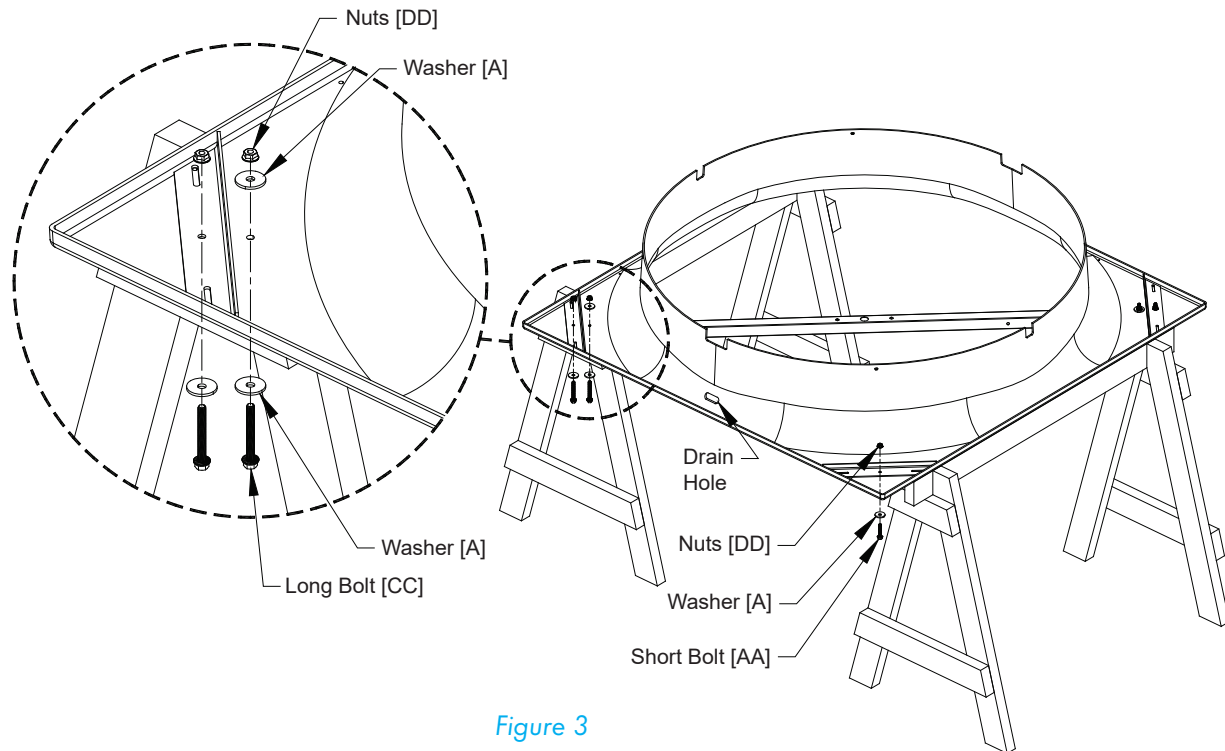

Figure 3
The corners of the Orifice Panel with 2 holes are the corners where the Strut attaches. Attach the Strut using (4) Long Bolts [CC], (6) Washers [A] and (4) Nuts [DD] and in the opposite corners attach the Cone/Strut Mounting Bracket to the orifice using Short Bolt [AA], Washer [A] and Nut [DD]. See Figure 3.